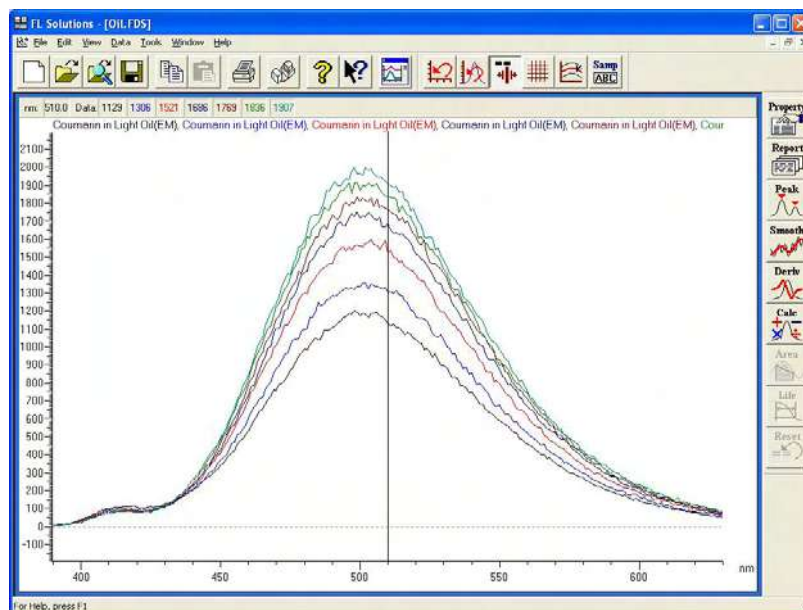

Fig. 8-19
- **Overlay** : Two or more spectra are overlaid for comparison, etc. (Refer to Fig. 8-19.)